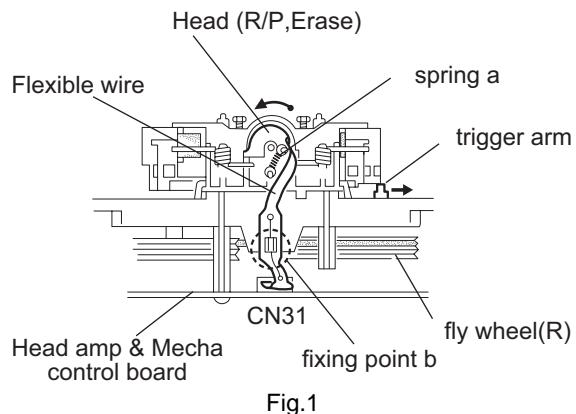

Fig.1
2.2.1 Removing the playback/recording & eraser head (See Fig.1 to 3)
- (1) While shifting the trigger arm seen on the right side of the head mount in the arrow direction, turn the flywheel (R) in counterclockwise direction until the head mount has gone out with a click (See Fig.1).